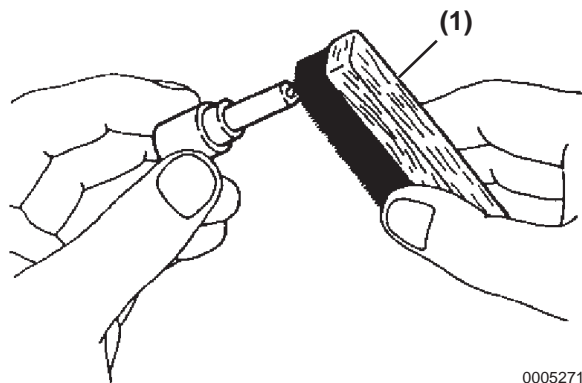

Figure 6-20
3. **NOTICE:** Wash all parts with clean diesel fuel. **NEVER** touch the nozzle mating surfaces with bare hands. Remove carbon deposits from the outside surface of nozzle body using a soft brass brush, except the lapped surface (**Figure 6-20, (1)**).